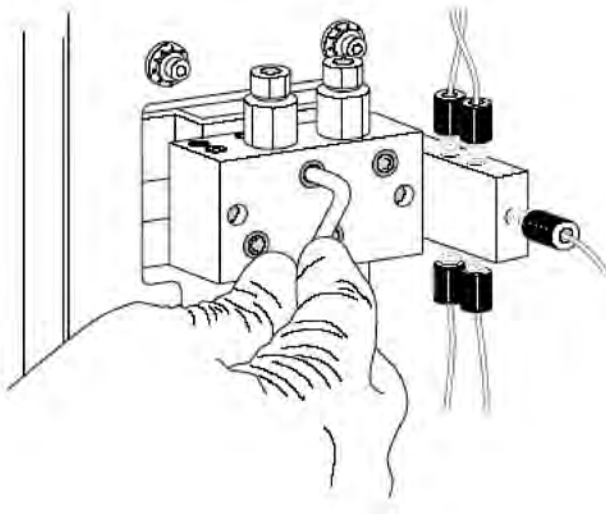

Fig. 13.7. Removing the pump screws.
5. Use a standard 9/64" Allen wrench to remove the four screws that hold the pump head to the drive assembly (Figure 13.7).